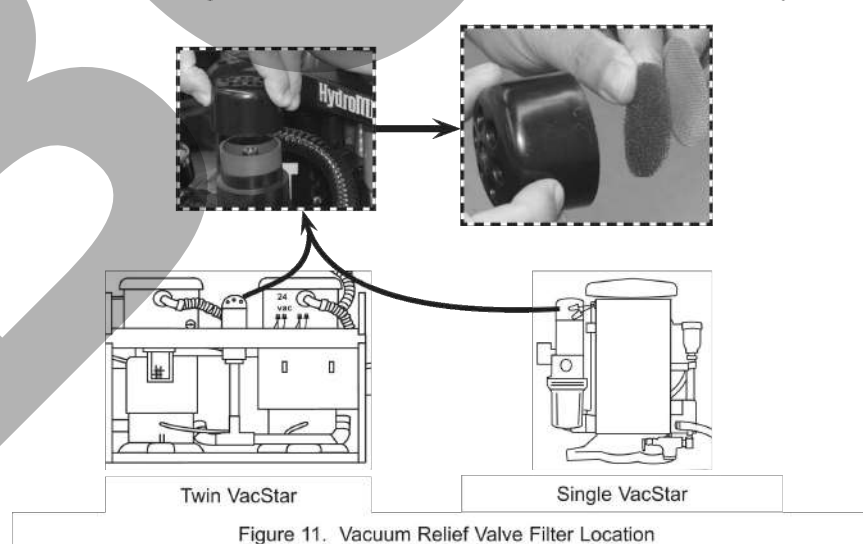

Figure 11: Vacuum Relief Valve Filter Location
- Refer to Figure 11 and check the vacuum relief valve filter, clean if necessary.